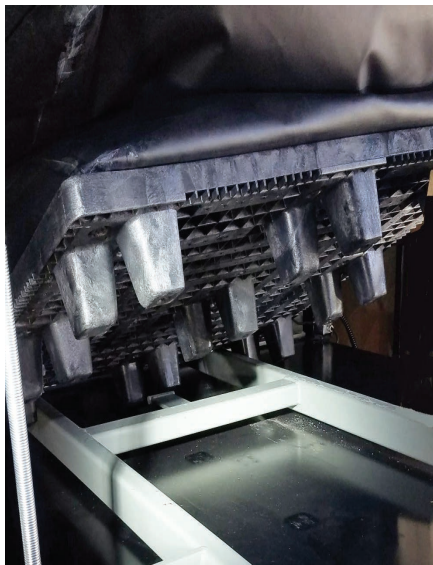

Figure 26
- Inspect the area under the platform, around and under the air bellows (see Figure 26). Look for cracks in the welds or damage. Build-up of foreign material in this area may damage air bellows components, causing abnormal operation.